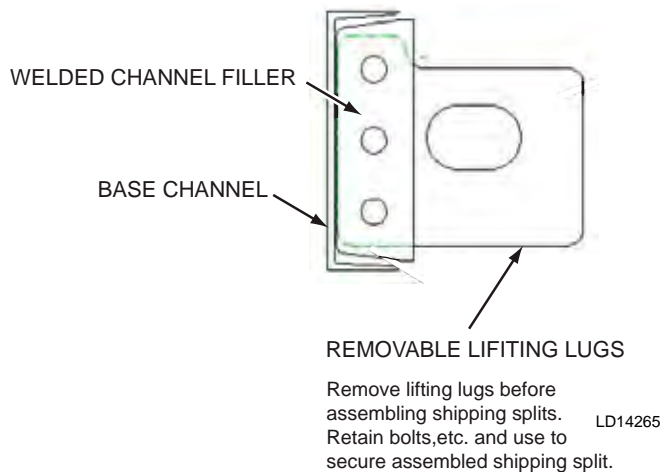

FIG. 2-26 – REMOVE LIFTING LUGS AND SAVE HARDWARE
- 3A. For expanded cabinet with structural steel base remove lifting lugs within the shipping split. retain bolts and nuts (see Fig. 2-26)